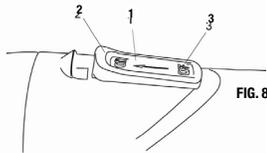

FIG. 8
To turn the switch ON, press the back of the switch slider (3) into the body of the tool. While pressing on the rear of the slider, push it forward (1) until the front part of the switch (2) engages the catch (Fig. 8). When the switch "snaps" into position, the switch will remain ON and the motor will continue running. To turn the switch OFF, press the rear of the slider into the Angle Grinder body. The switch will "snap" to the OFF position.